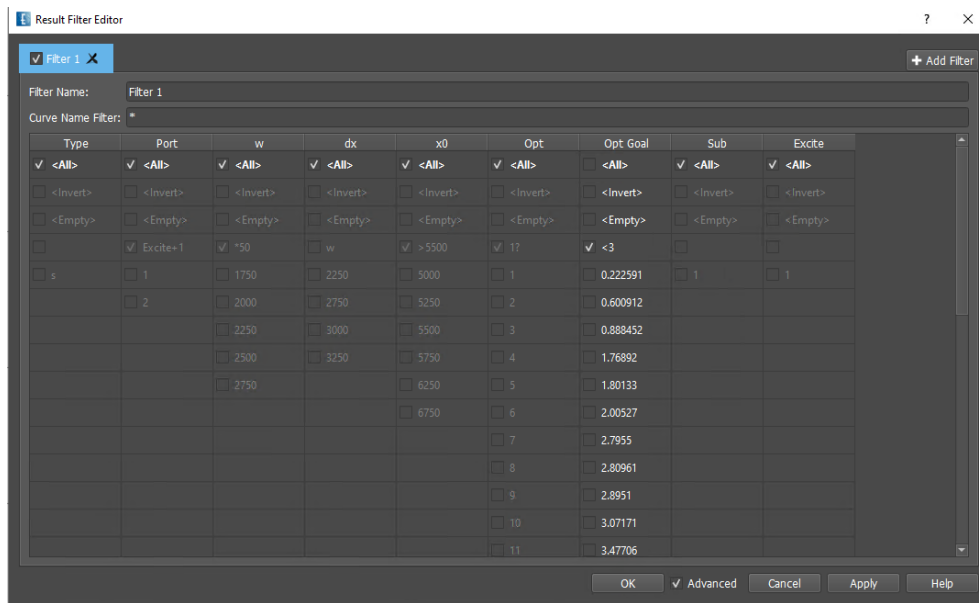

Figure 25.3.: Result Filter Editor Example
- The unnamed row can be used to enter a filter for a matching expression, see Fig.25.3: